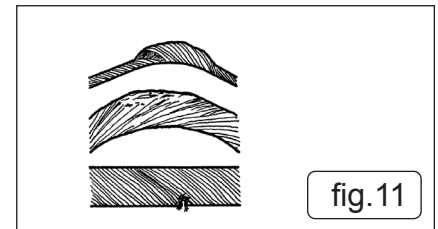
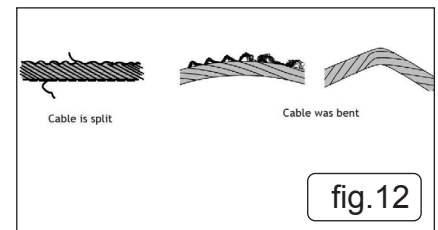

fig.11
fig.12
- 8.1.1. A check must be made every 30 cycles, as shown in Fig.11 or showing, to find whether the entire steel cable Fig.12 is in good condition. If it is damaged, it must be replaced by a steel cable of the type specified in the technical data.